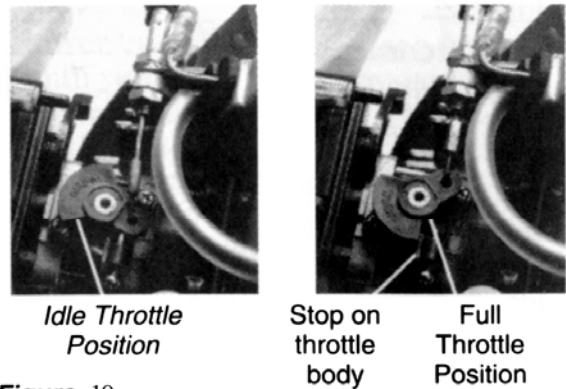

Figure 10
3. When 6mm free play is achieved, tighten the two 10mm throttle cable nuts. When the throttle cable is correctly adjusted, and the throttle trigger is fully depressed (full throttle), the throttle will contact the stop on the throttle body. See Figure 10